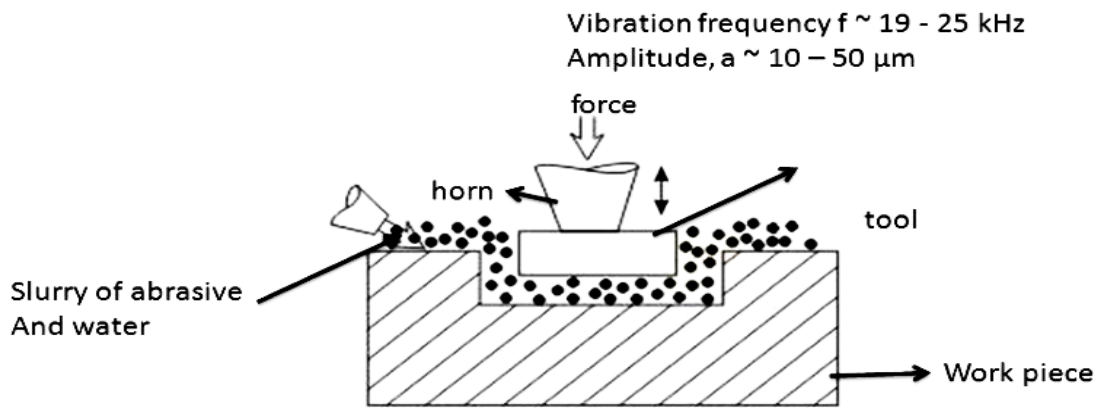

Fig: 2.14 Principle of USM process.
- ✓ In this machining method, a slurry of small abrasive particles are forced against the work piece by means of a vibrating tool and it causes the removal of metal from the work piece in the form of extremely small chips as shown in fig. 2.14.